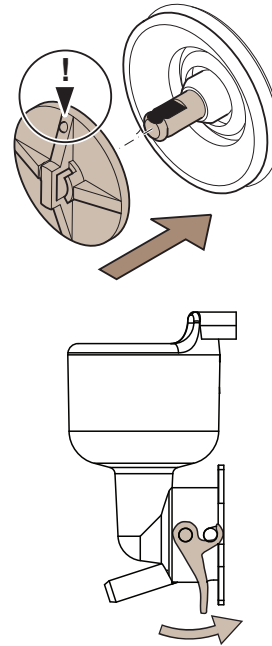

Figure 4-6
13. Replace the mixer blade (E) until it clicks. Ensure the marking on the mixer blade is aligned with the flat part against the motor shaft, (see figure 4-6)
14. Replace the mixing compartment (B) with the extractor hood (A), and attach the tubes with dispensing pipes.
The mixing compartment must be well-secured to prevent leaks. Ensure the green catch is firmly in place, (see figure 4-6).